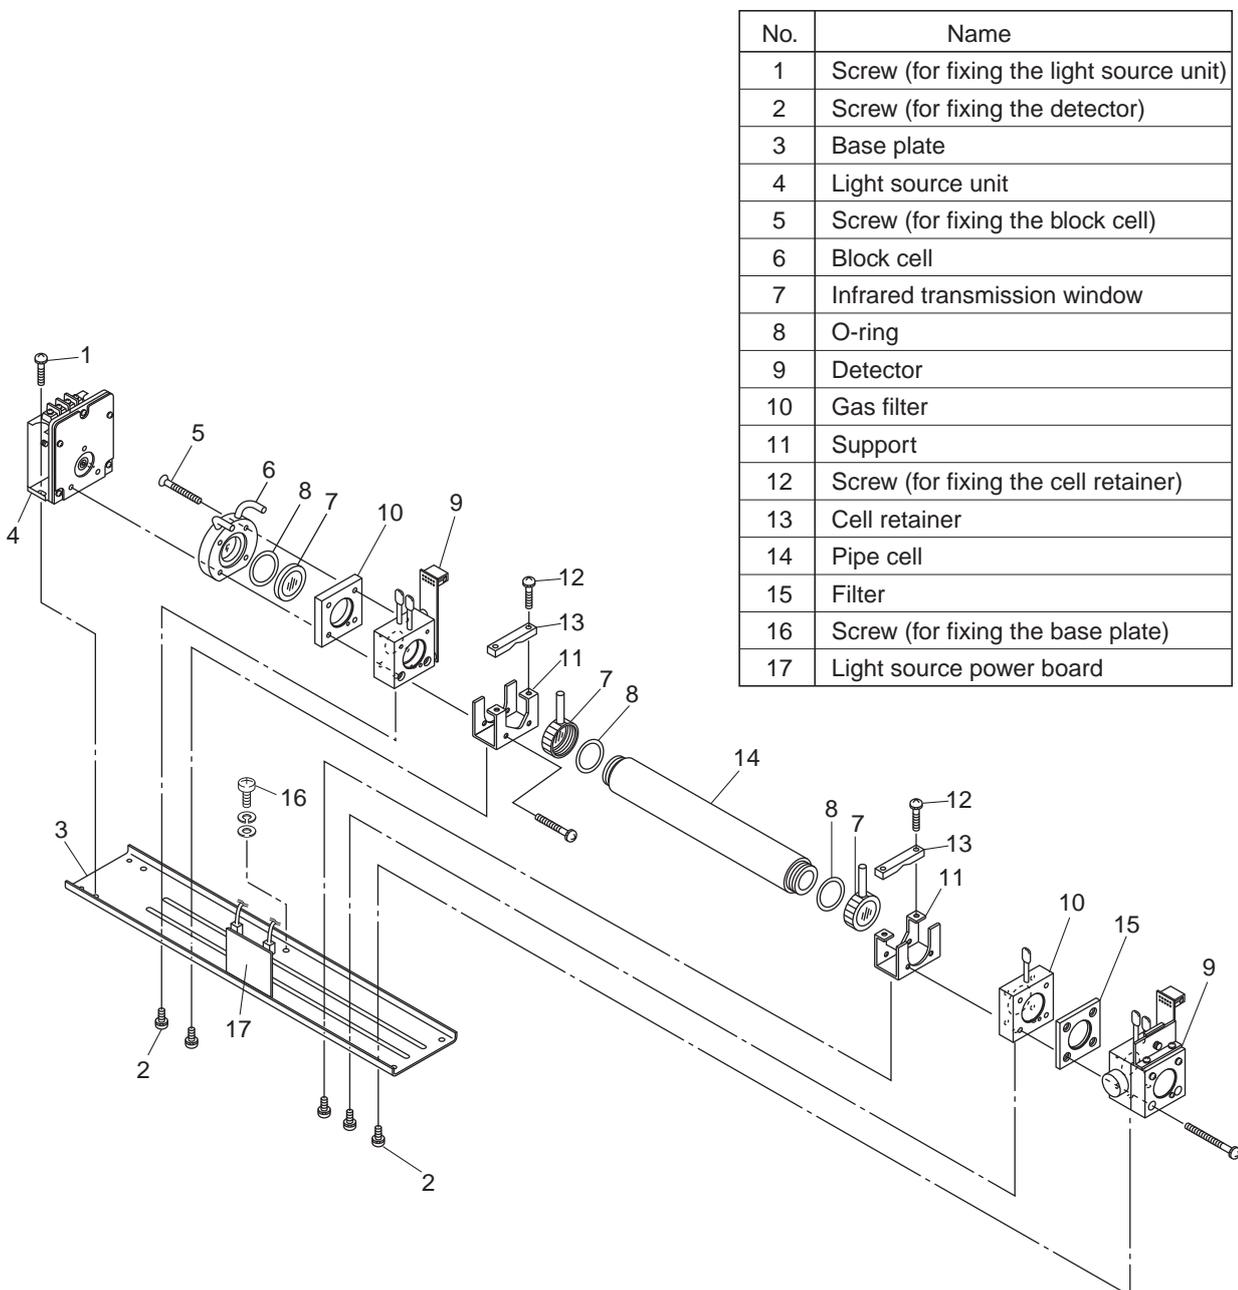

Fig. 7-3 Configuration of measuring unit (2-component analyzer: block cell + pipe cell)
2-component analyzer may incorporate both sampling cells in one optical unit. In such a case, detach the pipe cell and then block cell (See Fig. 7-3).
c. How to remove measuring unit (See Fig. 7-3)